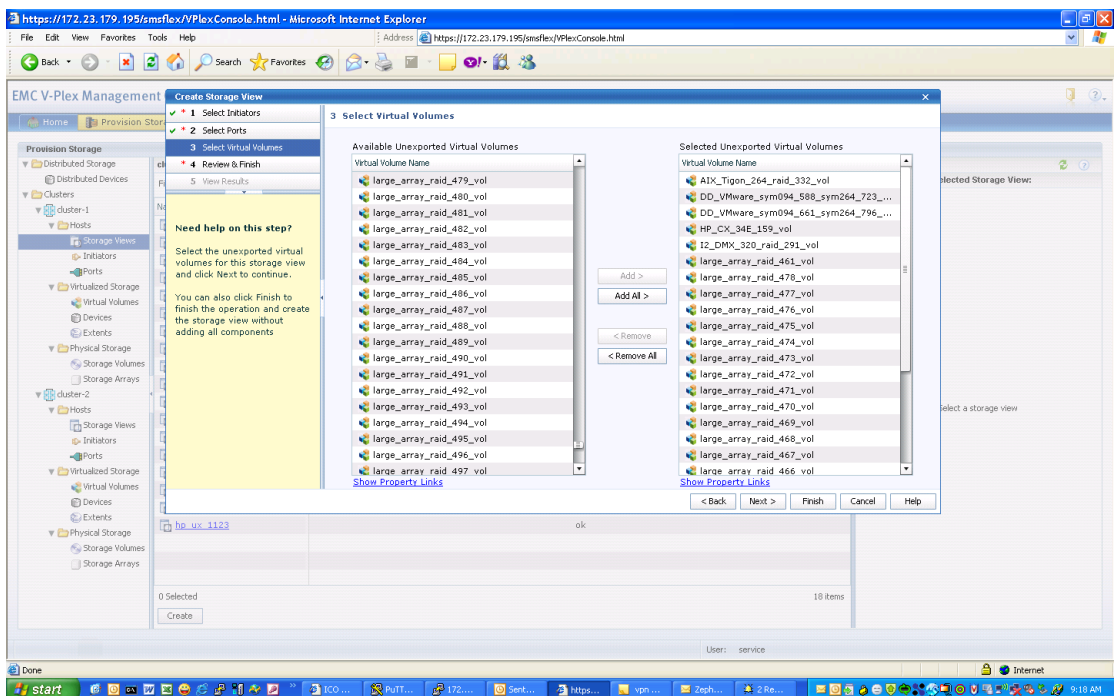

Figure 22 Add virtual volumes to storage view
4. Adding virtual volumes to the storage view, as shown in Figure 22.